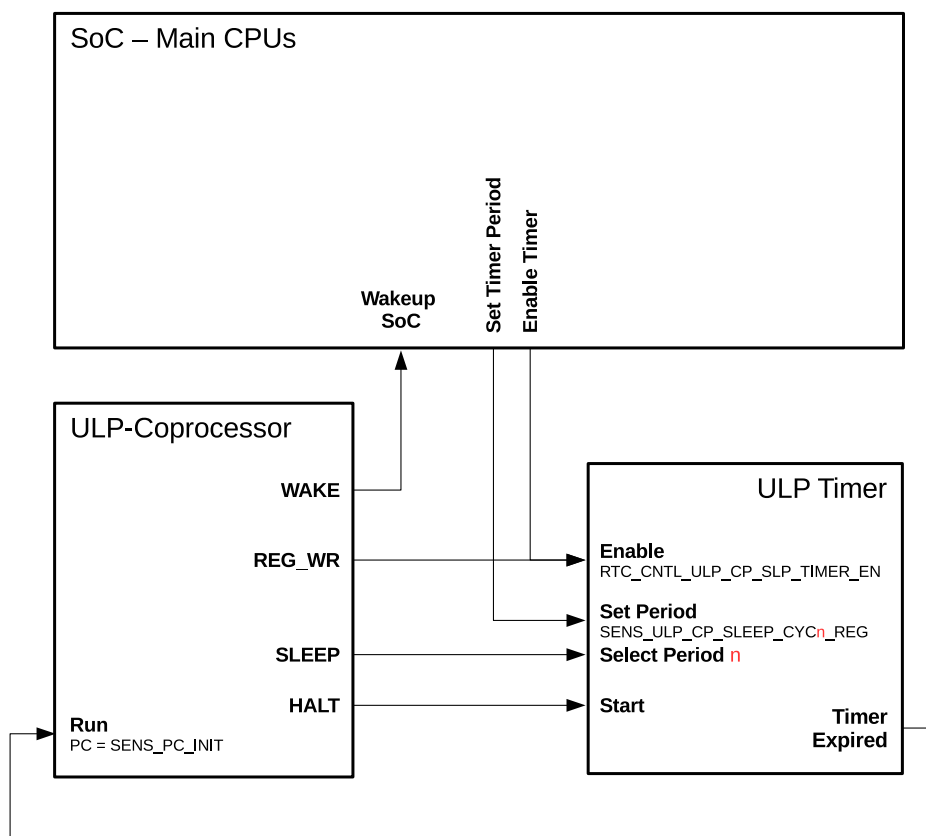

Figure 148: Control of ULP Program Execution
The ULP co-processor puts itself into sleep mode by executing the HALT instruction. This also triggers the ULP timer to start counting RTC_SLOW_CLK ticks which, by default, originate from an internal 150 kHz RC oscillator. Once the timer expires, the ULP co-processor is powered up and runs a program with the program counter (PC) which is stored in register SENS_PC_INIT. The relationship between the described signals and registers is shown in Figure 148.